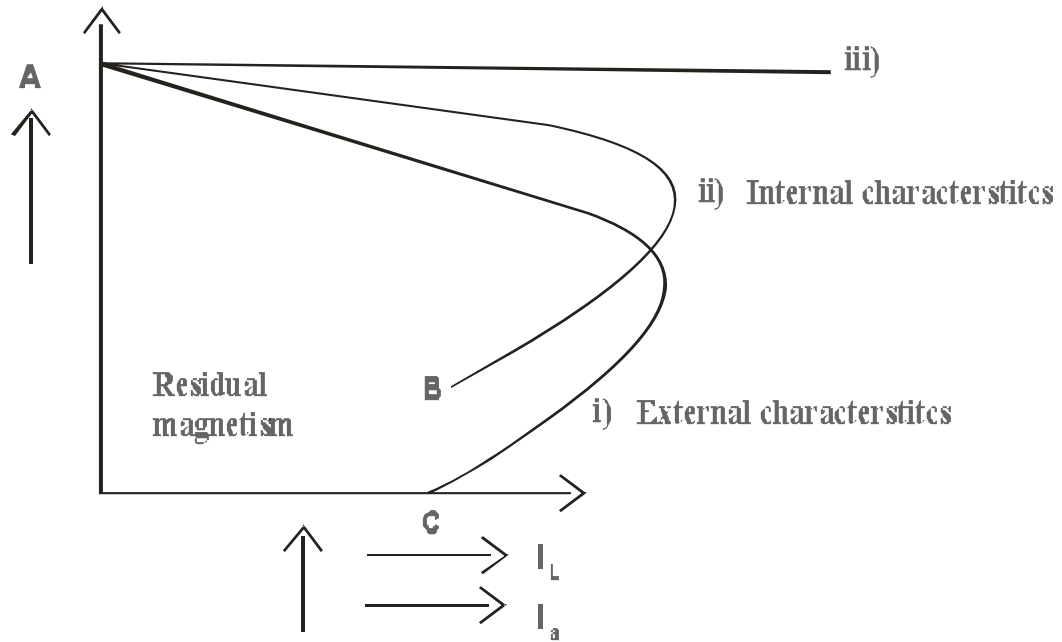

Fig. 2.1 : Characteristics of the generator
- 1) Make the connection as shown in the circuit diagram as shown in the fig 2.1. Start the motor with the help of the starter.